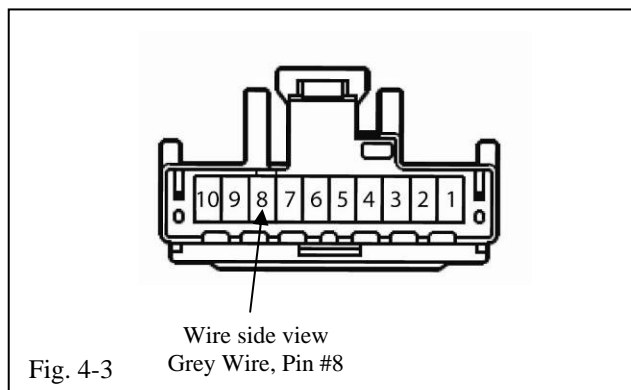

Fig. 4-3
- (c) Locate the GREY wire in pin #8 on the 10 pin connector. (Fig. 4-3)